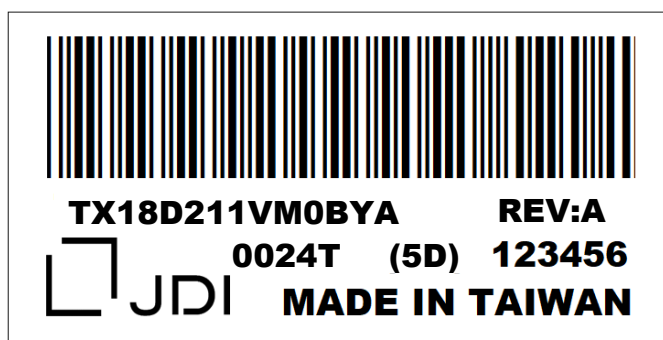

Fig. 14.2
- 4) The location of the lot mark is on the back of the display shown in Fig. 14.2.